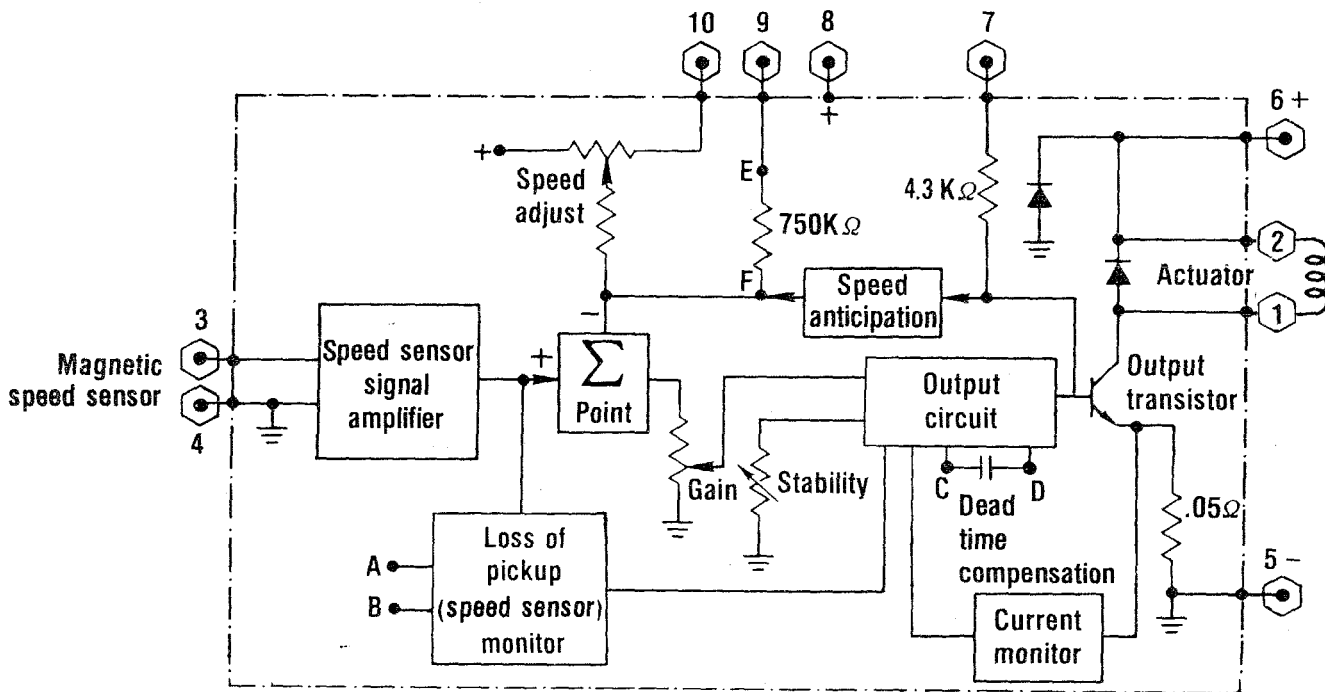

Figure 4. Functional schematic
The speed sensor signal is amplified and shaped by the circuits. The signal from the speed sensor amplifier section of the control unit are then fed to a summing circuit (see Figure 4). A speed sensor monitor circuit detects the pulses and, if the pulses disappear for longer than 0.1 second, the speed control unit will turn off the output circuit (current to actuator). This feature can be voided by connecting a jumper across posts A and B as shown in Figure 4. In this way the governor will call for full fuel as soon as battery power is applied. During cranking, the actuator will move to full fuel position and remain there during starting and acceleration of the engine. The summing point of the speed sensor and the speed adjust control is the input to the dynamic control section of the speed control unit. A gain control is provided to adjust the speed control unit sensitivity. The gain is usually advanced (CW) as far as possible for best performance without instability. (See adjustment procedure Page 11). The gain control has a non-linear range of 33:1. The dynamic control circuit has a control function that will provide isochronous and stable performance from almost all types of engine systems. The stability control will match the constants of engines with a wide variety of characteristics.